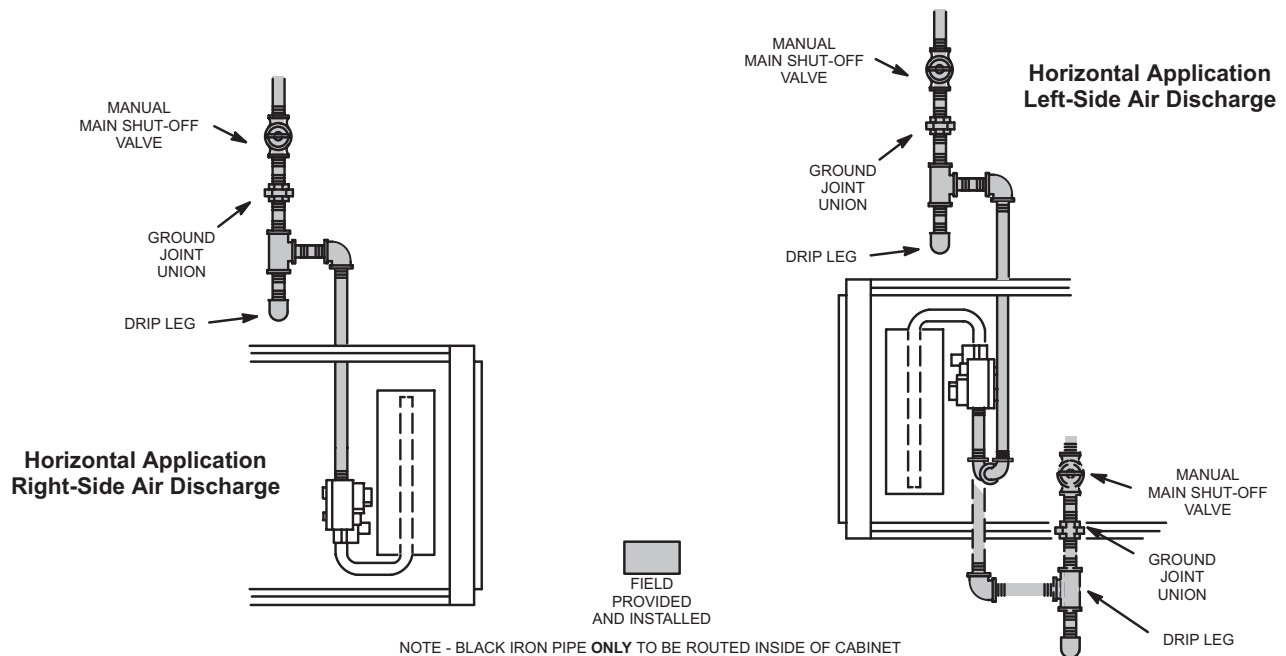

FIGURE 50
- 1 - Gas piping may be routed into the unit through either the left- or right-hand side in upflow applications, and either the top or bottom in horizontal applications. Supply piping enters into the gas valve from the side of the valve as shown in FIGURE 49 and FIGURE 50. Connect the gas supply piping into the gas valve. The maximum torque is 800 in lbs and minimum torque is 350 in lbs when attaching the gas piping to the gas valve.
- 3 - Gas piping must not run in or through air ducts, clothes chutes, chimneys or gas vents, dumb waiters or elevator shafts. Center gas line through piping hole. Gas line should not touch side of unit. See FIGURE 49 and FIGURE 50.